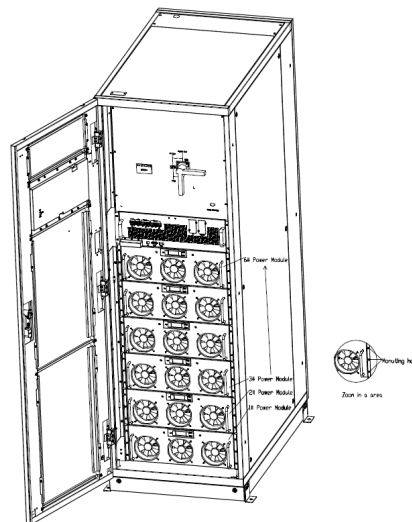

Figure 2-9 Installing power modules
The installation position of power module is shown in Figure 2-9. Please install the power modules from bottom to top to prevent inclination of the cabinet due to high center of gravity. The steps of installing power module are as follows (take 300kVA UPS as example):
- 4) Fix the module to the cabinet through the mounting holes on two sides of the front plate of the module, as is shown in Figure 2-9.